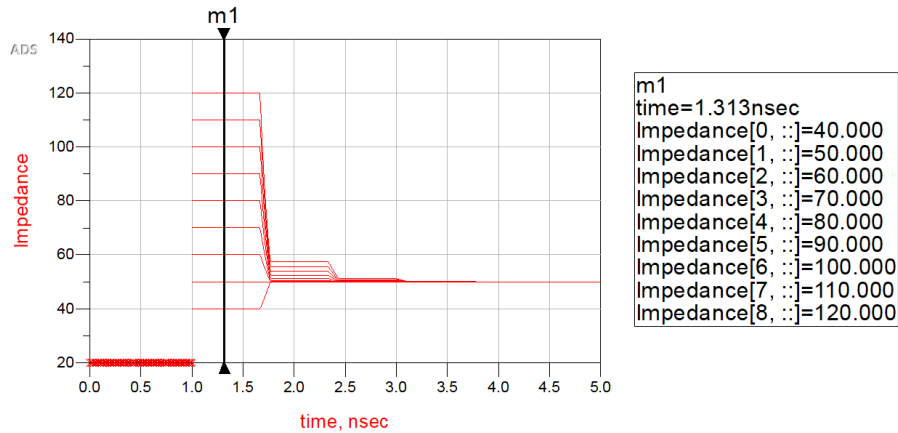

Figure 12: *Batch Data Display.*
2. Start the simulation. The impedance of TLIN is defined as a variable here (from $40\ \Omega$ to $120\ \Omega$ with a step of $10\ \Omega$). Insert a *Line Marker* in the impedance plot so you can see all 9 values simulated. Your result should look like Figure 12. Take a screenshot and include it in your report.